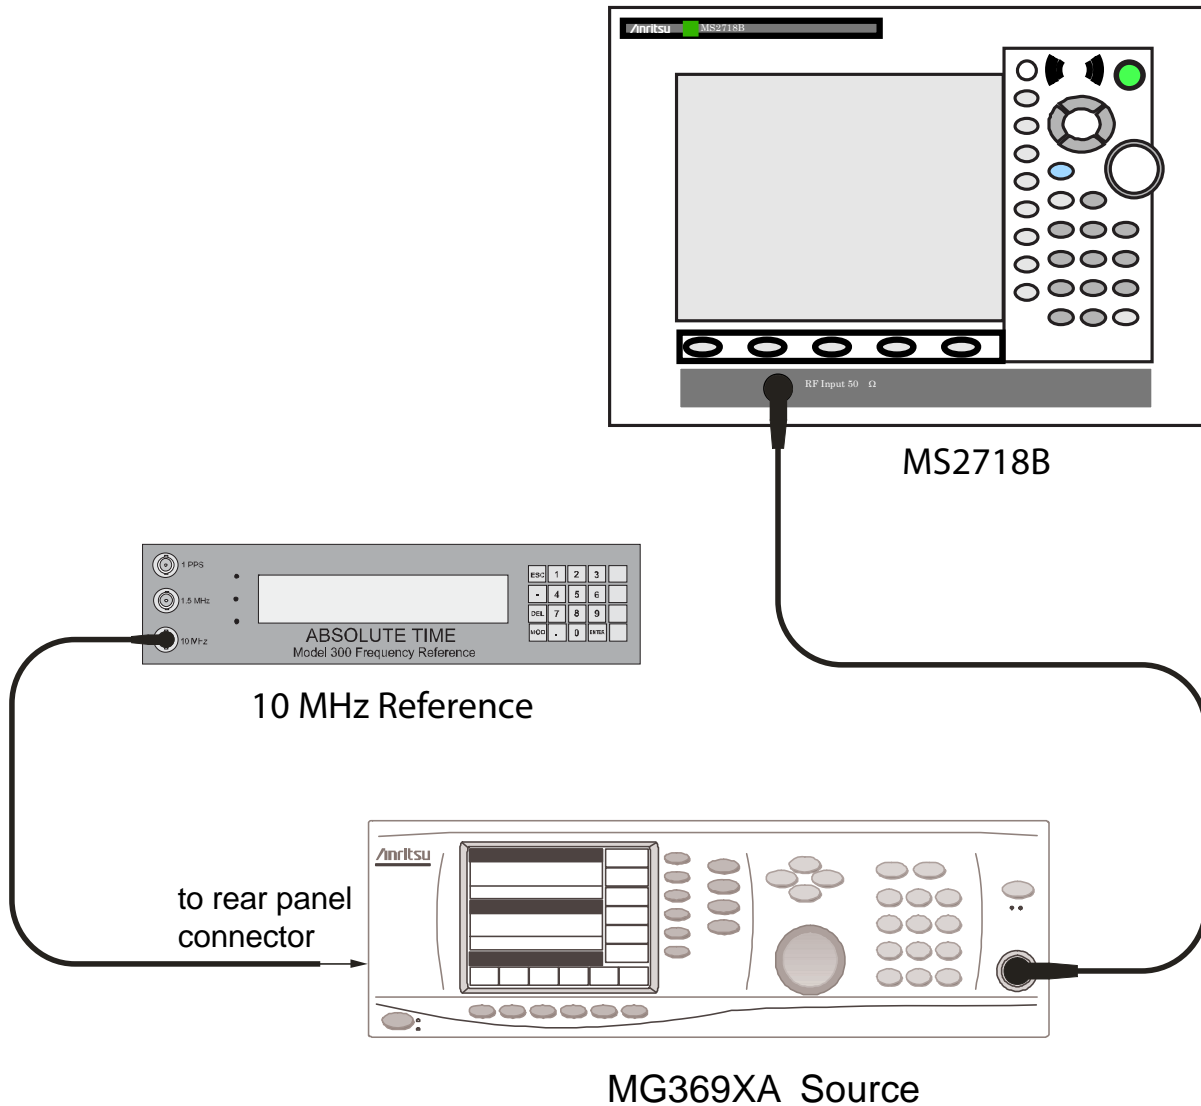

Figure 2-4. Input Related Spurious Signals Test Setup
1. Connect the 10 MHz reference source to the MG3692x Synthesized Signal Generator as shown in Figure 2-4.